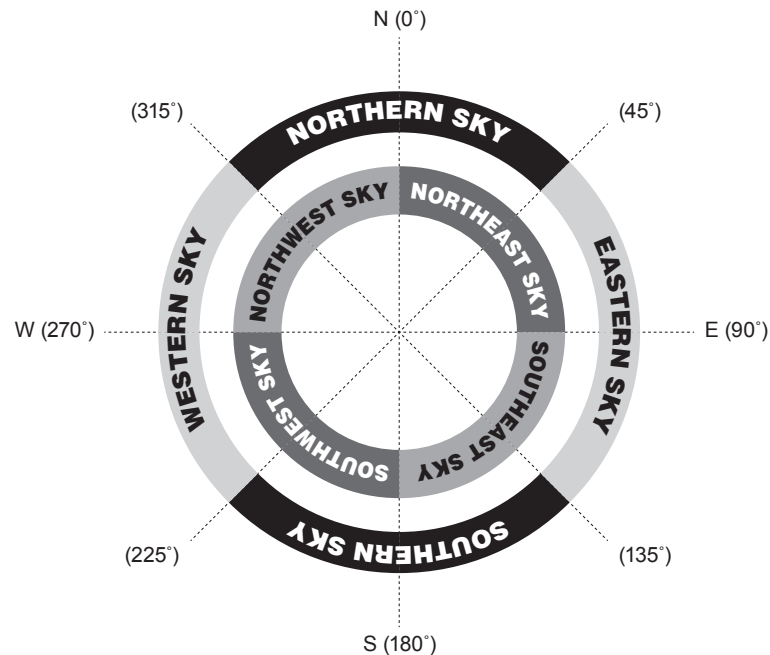

Fig. 3.4a
2. The hand control displays "**Select Region**". Use the scroll keys to pick one of the eight regions shown in Fig 3.4a, which matches the horizontal region of the brightest star. Press **ENTER** to confirm selection and proceed to the next step.